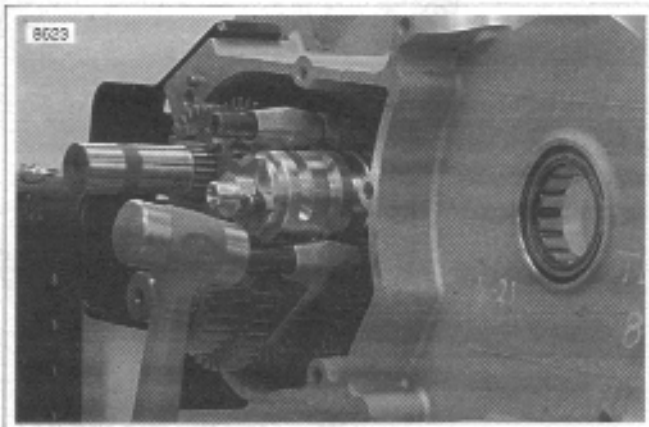

Figure 6-78. Installing Shift Fork Shafts
- See Figure 6-78. Place the 3rd and 5th gear shifter fork on the appropriate mainshaft sliding gear and install the shifter fork shaft through the two installed shifter forks and into the left case half.
See Figure 6-78. Install shifter fork shafts in the left case half by lightly tapping on the end with a brass hammer until seated in bore.